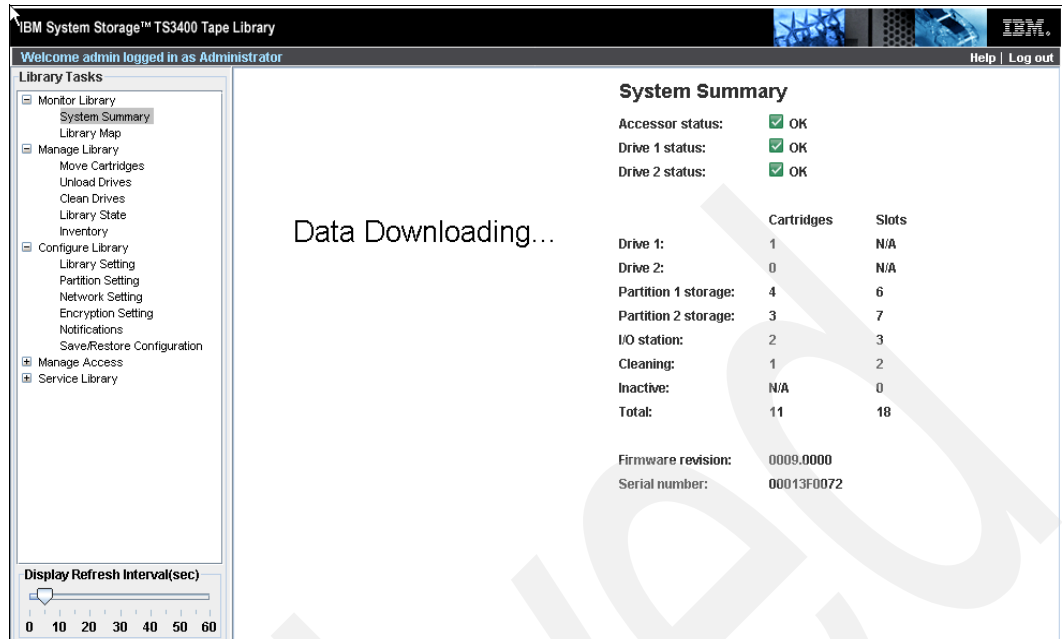

Figure 2-19 IBM TS3400Tape Library Specialist Summary panel
1. Using the TS3400 Tape Library Specialist, you are asked to authenticate, and then see the summary panel shown in Figure 2-19.